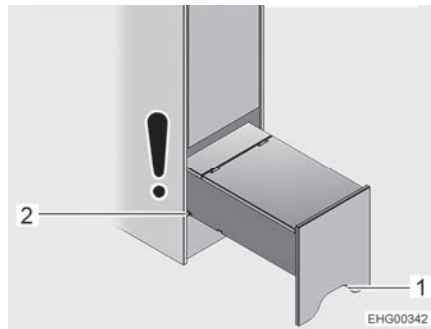

Fig. 82 Access assistance (fully pulled out)
- Grab the access assistance by the cut-out (Fig. 82,1), lift it slightly and pull it out up to the second groove (Fig. 82,2).